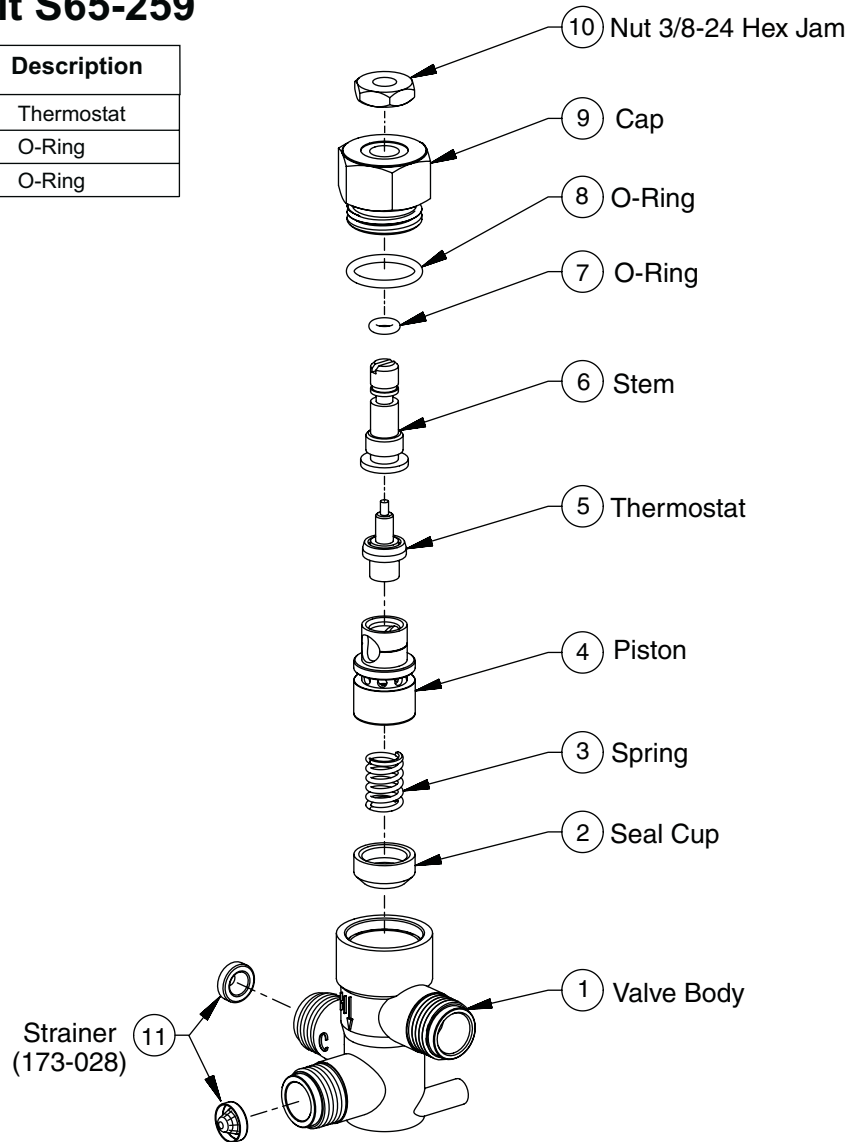

Figure 7
1. Remove the valve's cap and thermostat (see Figure 7 on Page 13).